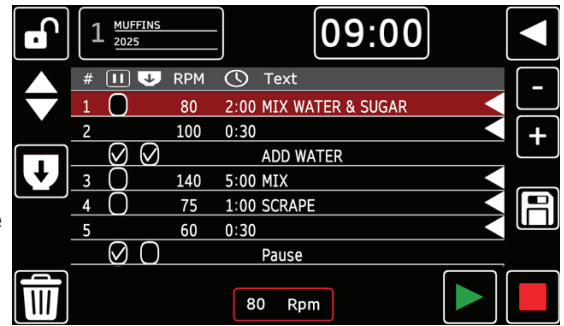

Figure 15-1.
8. Select the “bowl lowering” symbol (Figure 15-1).